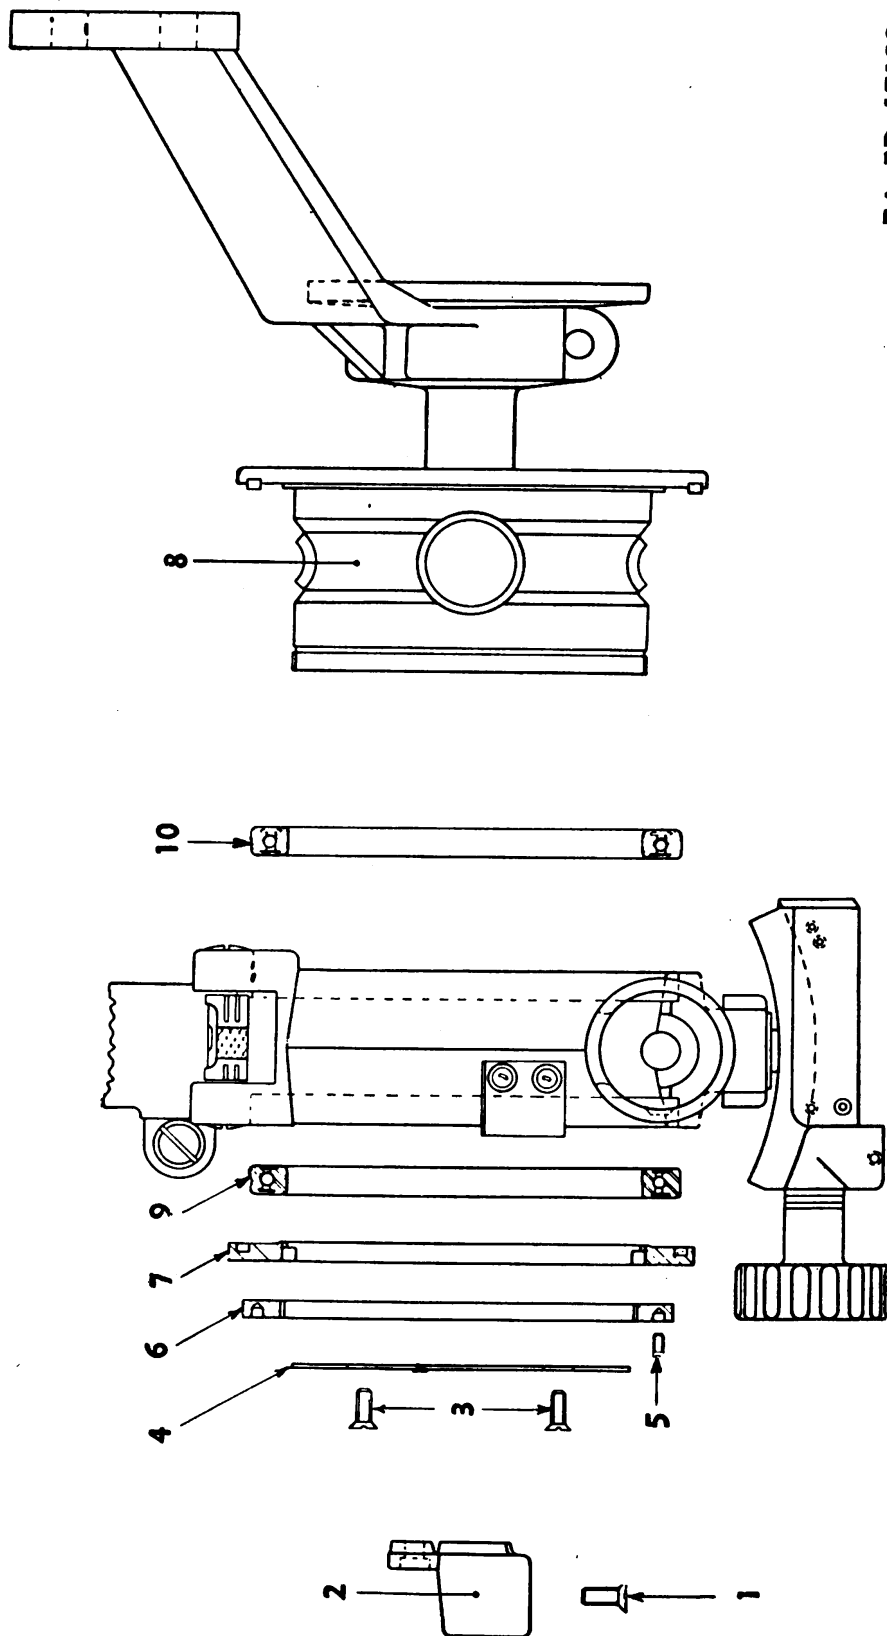

FIGURE 20.—Exploded view of actuating arm and bearings.
(b) To remove the elevating worm gear from the telescope mount body (see fig. 20), remove the three flathead screws (1) and the alining bracket (2). Remove the two screws (3) with washer, and the elevation scale (4) and unscrew the nut (6) after loosening the locking screw (5). Extract the washer (7) from the telescope mount body. Slide the body from the elevating worm (8). The two bearings (9 and 10) can then be removed.